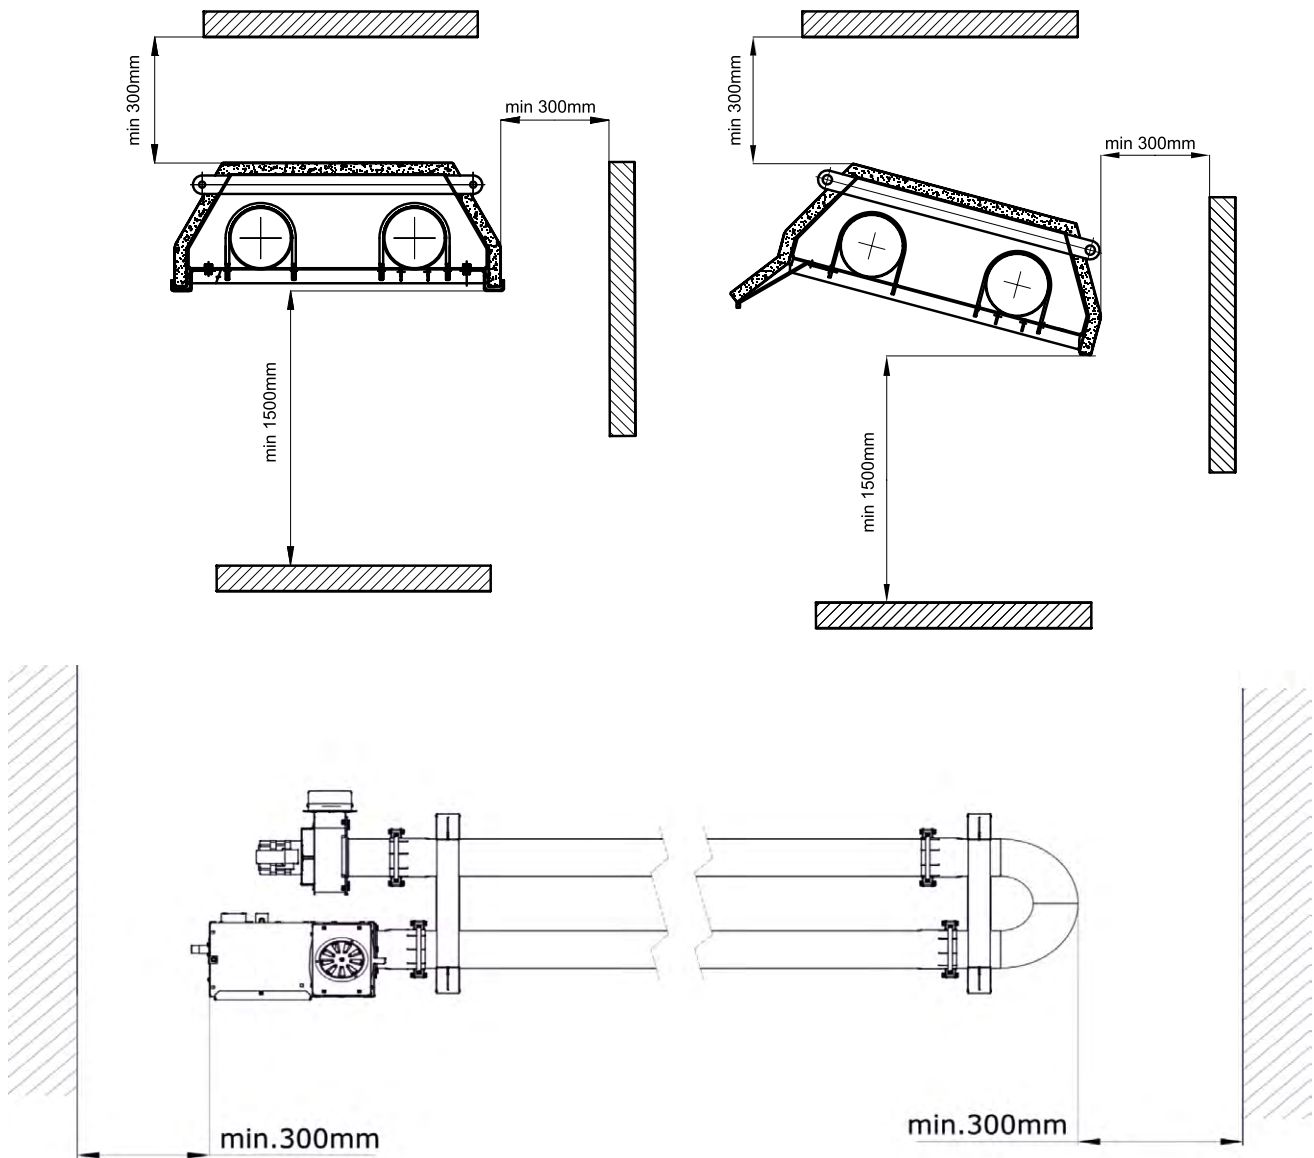

Fig. 7: Minimum safe distance of the infrared heater from walls, ceilings and flammable objects
4. It is necessary to keep safe distance from flammable objects and walls (Fig. 7).